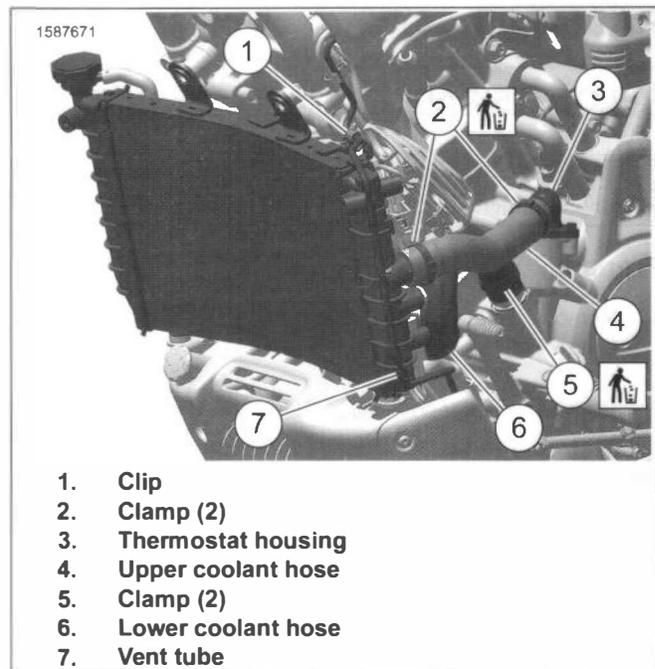
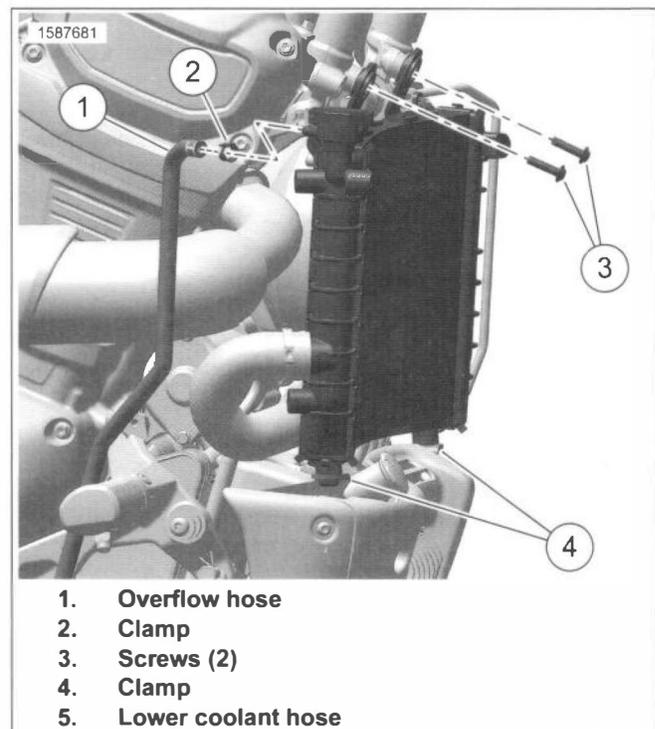
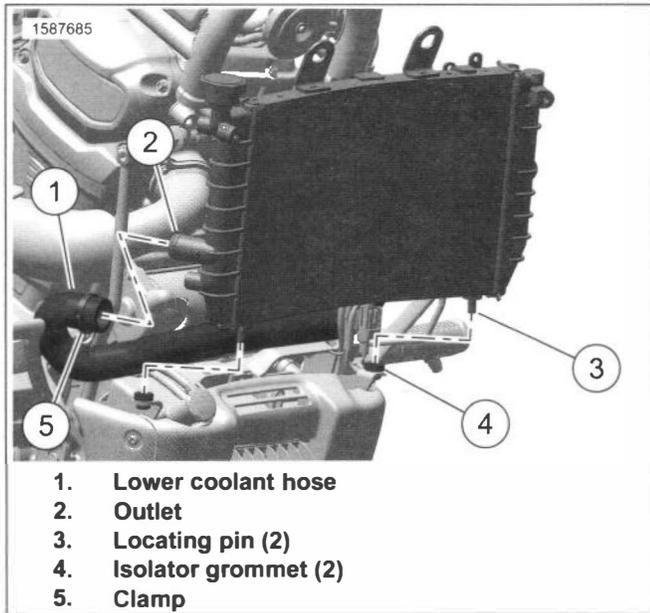

Figure 7-22. Left Side Hoses
Figure 7-23. Right Side Hoses
Figure 7-24. Radiator Locating Pins
1. See Figure 7-22. Release vent tube (7) from clip (1).
- a. Remove and discard upper clamps (2).
- b. Remove upper coolant hose (4).
3. Remove and discard lower clamp (5).
4. Detach lower coolant hose (6) from fitting.
5. See Figure 7-23. Remove overflow hose.
- a. Remove clamp (2).
- b. Remove overflow hose (1) from hose barb.
6. Remove screws (3).
7. See Figure 7-24. Tilt radiator to drain additional fluid and remove.
8. Remove and discard clamp (5).
9. Remove coolant hose (1).
1. See Figure 7-24. Install radiator.
- a. Clean inside of lower coolant hose (1) and outlet (2).
- b. Slide **new** clamp (5) on lower coolant hose and attach to outlet. Do not tighten.
- c. Align radiator locating pins (3) in isolator grommets (4).
- d. See Figure 7-23. Pivot radiator up.
- e. Install screws (3). Tighten.
2. See Figure 7-23. Attach coolant overflow hose.
- b. Install overflow hose (1).
- c. Secure with clamp (2).
4. See See Figure 7-22.. Snap vent tube (7) into clip (1).